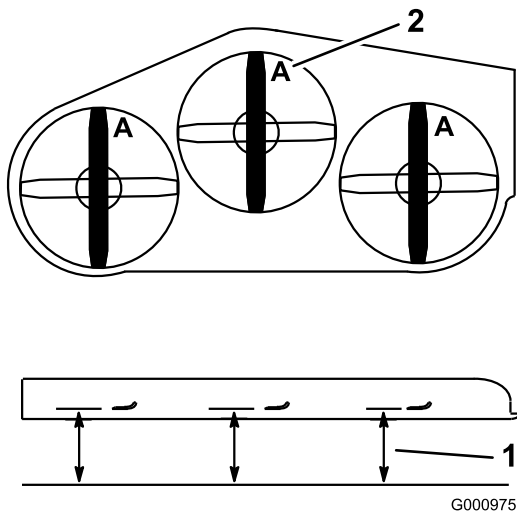

Figure 99
3. Rotate the blades until the ends face forward and backward (Figure 99). Measure from a level surface to the cutting edge, position **A**, of the blades (Figure 99). Note this dimension.